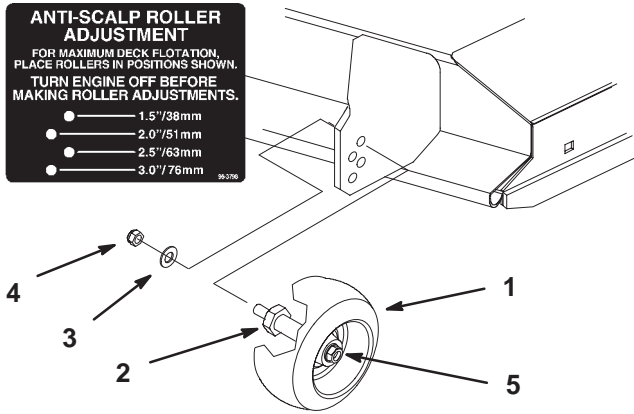

Figure 22
2. After adjusting height-of-cut remove flange nut and spring disk while holding stud with wrench (Fig. 22).
Note: Do not remove the wheel nut and washer (Fig. 22).
3. Select hole so gage wheel is positioned to the nearest corresponding height-of-cut desired (Fig. 22).
4. Reinstall the flange nut and spring disk. Torque to 40–45 ft-lb (54.2–61.0 N•m) (Fig. 22).